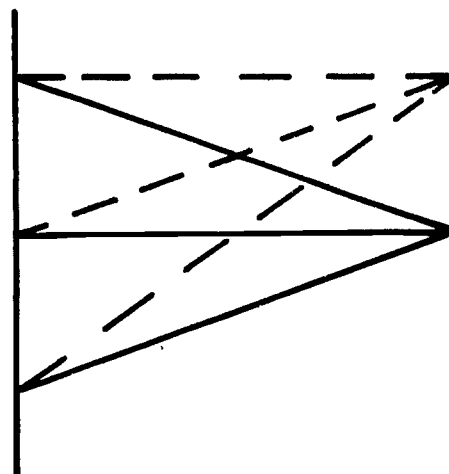

Figure 31.
2. Make a chalk mark at the new point of the dart and draw lines from the beginning of the original dart to the point (see Figure 31).